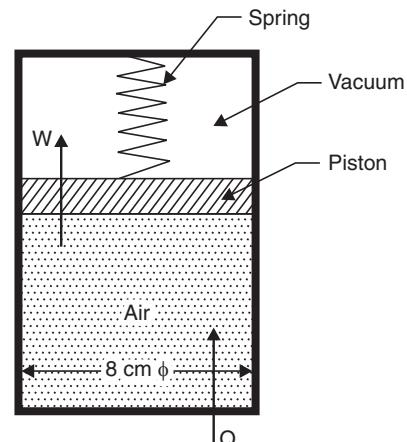

Fig. 2.24
**Example 2.31.** Fig 2.24 shows a cylinder of 8 cm inside diameter having a piston loaded with a spring (stiffness = 150 N/cm of compression). The initial pressure, volume and temperature of air in the cylinder are  $3 \times 10^5 \text{ N/m}^2$ ,  $0.000045 \text{ m}^3$  and  $20^\circ\text{C}$  respectively. Determine the amount of heat added to the system so that piston moves by 3.5 cm.